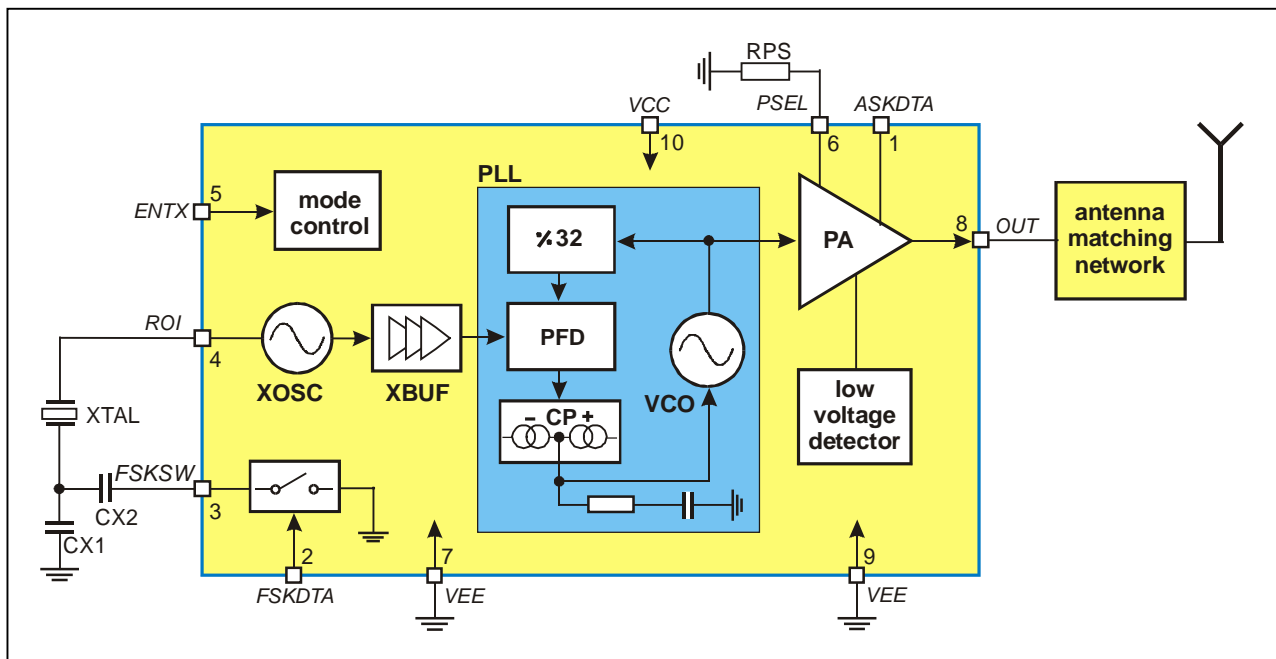

Fig. 1: Block diagram with external components
As depicted in Fig.1, the TH72005 transmitter consists of a fully integrated voltage-controlled oscillator (VCO), a divide-by-32 divider (div32), a phase-frequency detector (PFD) and a charge pump (CP). An internal loop filter determines the dynamic behavior of the PLL and suppresses reference spurious signals. A Colpitts crystal oscillator (XOSC) is used as the reference oscillator of a phase-locked loop (PLL) synthesizer. The VCO's output signal feeds the power amplifier (PA). The RF signal power P_{out} can be adjusted in four steps from $P_{out} = -10$ dBm to $+11$ dBm, either by changing the value of resistor RPS or by varying the voltage V_{PS} at pin PSEL. The open-collector output (OUT) can be used either to directly drive a loop antenna or to be matched to a 50Ohm load. Bandgap biasing ensures stable operation of the IC at a power supply range of 1.95 V to 5.5 V.